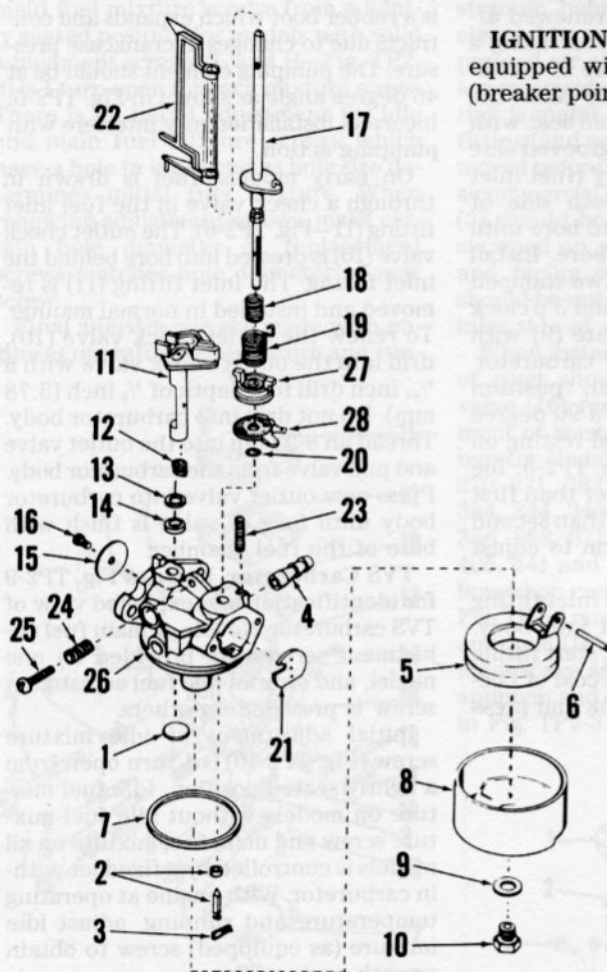

Fig. TP2-9—Exploded view of typical TVS type carburetor.
TVS Carburetor. Refer to Fig. TP2-9 for identification and exploded view of TVS carburetor. No idle or main fuel adjustment screws are provided on one model, and only an idle fuel adjustment screw is provided on others.
On some TVS series engines, a highly sensitive air vane (22—Fig. TP2-9) is attached to the choke shaft, independent of the choke shutter. The governor air vane is attached to the throttle arm (11) by the governor spring (19). The governor spring can be adjusted to vary the tension, causing the engine to run faster or slower as desired. One increment movement of sleeve (27) on serrated disc (28) will vary engine speed approximately 100 rpm.